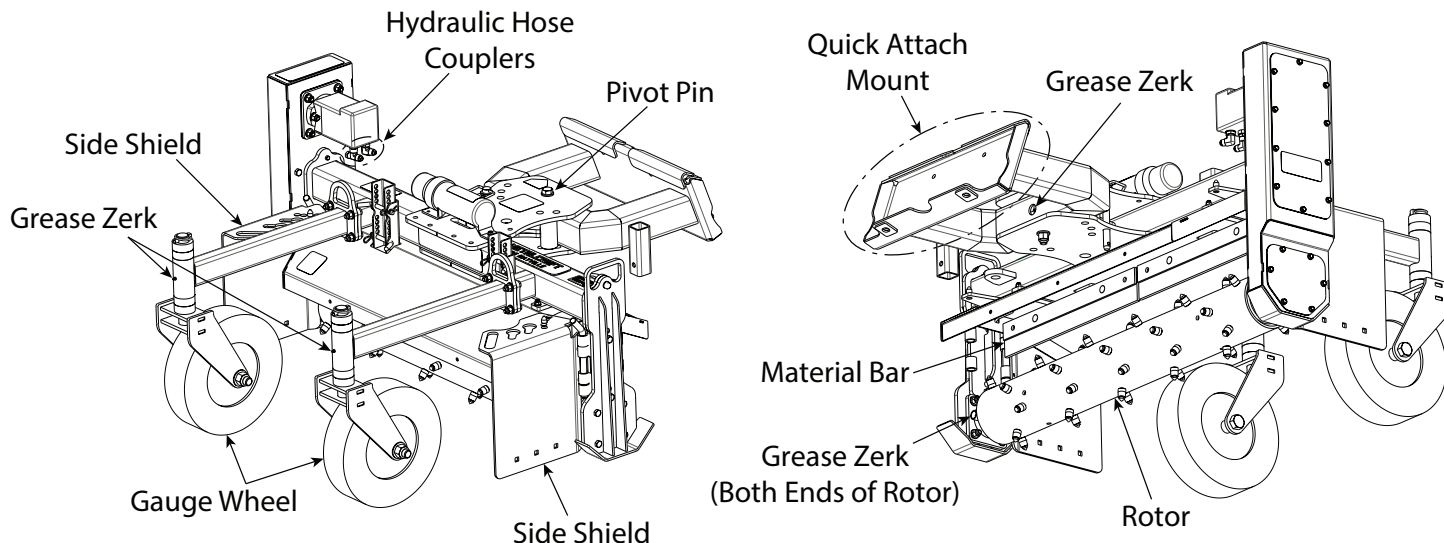

Figure 4-4. Component Identification
1. **Quick Attach Mount (Figure 4-4).** The universal mini quick attach coupler on the rear of the attachment is used to mount the attachment to the power unit. See Section 4.3 for mounting and dismounting instructions.
2. **Rotor (Figure 4-4).** The rotor processes the material. The rotor can be easily changed between the standard, tiller and broom rotors, depending on the application.
3. **Gauge Wheels (Figure 4-4).** The wheel spacers are used to adjust the gauge wheels up or down to keep the attachment level, depending on the application.
4. **Material Bar (Figure 4-4).** The material bar helps to contain the material being processed by the rotor. This may be adjusted to allow more or less material to pass over the rotor, depending on the application.
5. **Pivot Pin (Figure 4-4).** The pivot pin allows for the rotor to be adjusted left or right by 10 or 20 degrees.
6. **Grease Zerks (Figure 4-4).** Each grease zerk must have grease added for smooth operation and improved service life.
7. **Hydraulic Hose Couplers (Figure 4-4).** When attached to the power unit, the hydraulic hose attachment couplers provide hydraulic fluid to the power box rake for operation. See the power unit's operator's manual for location and installation instructions.
8. **Side Shields (Figure 4-4).** The side shields are used to contain material being processed by the rotor. They can be attached on the front or back sides of the attachment at various angles. The shields have slots for the hydraulic hoses to hook into when not attached to the power unit, to help prevent dirt and debris from entering the hydraulic lines.